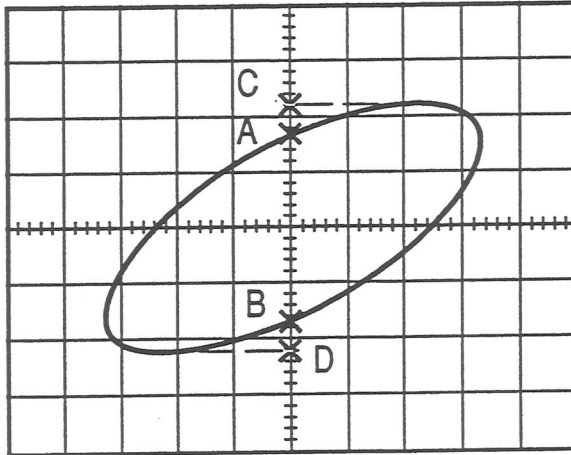

figure 9 : XY mode
- Adjust vertical sensitivity (32 and 37) to obtain the image shown in figure 9.